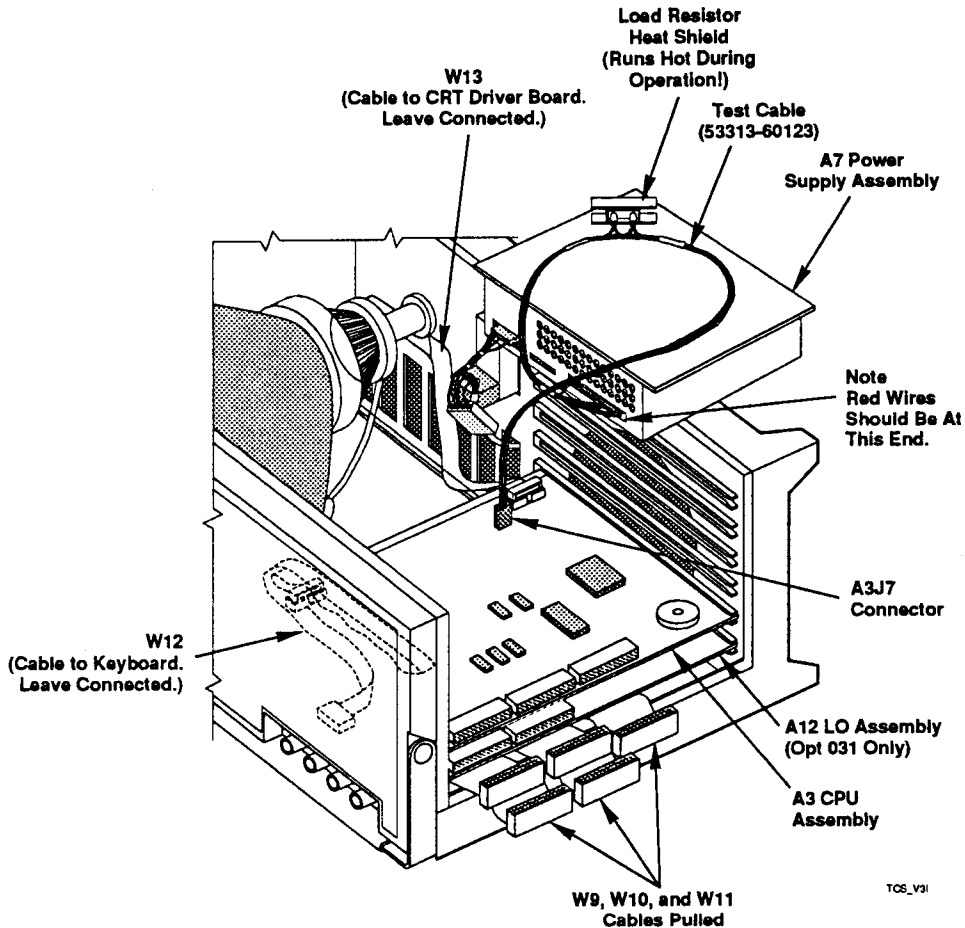

Figure 4-21. Test Cable Setup to Isolate A1 and A3 Assemblies
BEFORE PERFORMING THE NEXT STEP, OBSERVE THE POLARITY OF TEST CABLE AT A7! RED wires of the cable go toward front of instrument, or toward the closed end of A7 Power Supply Assembly when the power supply is out of the instrument as shown in Figure 4-21.
3. Install Test Cable (53310-60213) between A7 Power Supply Assembly and A3 CPU Assembly, making sure the polarity of the cable is correct at the A7 power connector as shown in *Figure 4-21*. (The small connector end of the cable which plugs into A3 is keyed.)
4. Leave A6 CRT Monitor cable (W13) and A4 Keyboard cable (W12) plugged into A3 board as shown in *Figure 4-21*.
BEFORE PERFORMING THE NEXT STEP, OBSERVE THE POLARITY OF TEST CABLE AT A7! RED wires of the cable go toward front of instrument, or toward the closed end of A7 Power Supply Assembly when the power supply is out of the instrument as shown in *Figure 4-21*.
4. Leave A6 CRT Monitor cable (W13) and A4 Keyboard cable (W12) plugged into A3 board as shown in Figure 4-21.